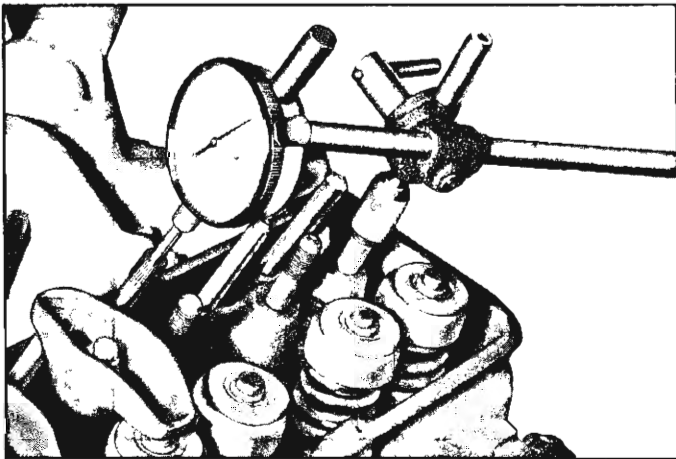

Fig. 58—Checking Camshaft Lobe Lift
3. Attach Tool J-8520 to stud as shown in Figure 58.
4. Position clamp on Tool J-8520 as shown in Figure 58.
5. Position indicator with ball socket adapter on Tool J-8520 to push rod as shown in Figure 58.